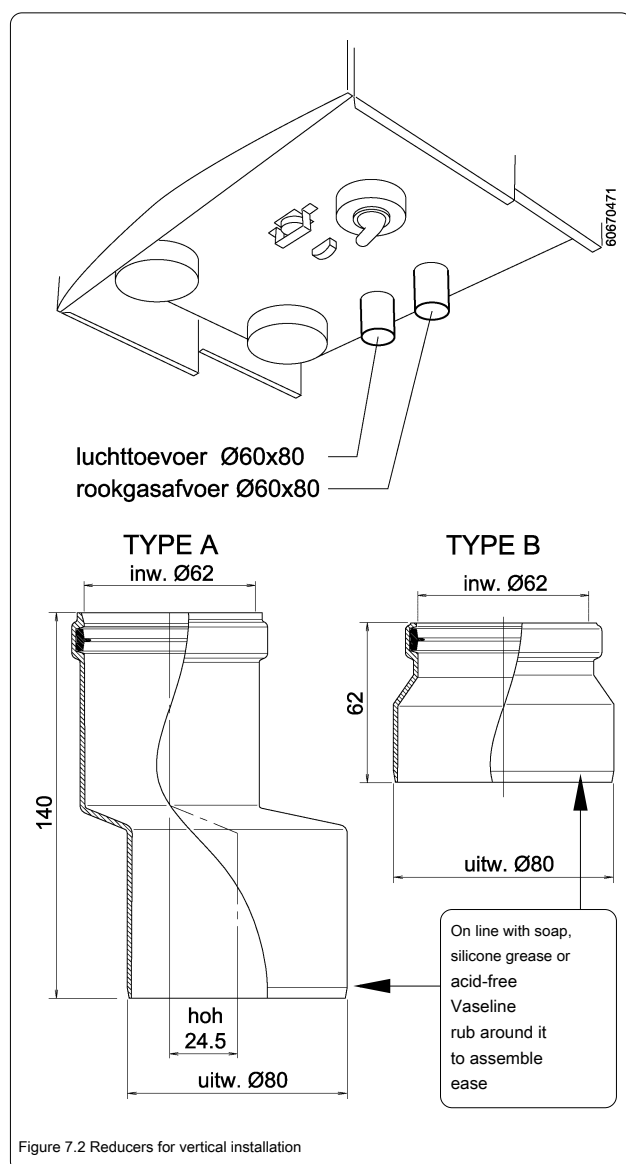

Figure 7.2 Reducers for vertical installation
Figure 7.2 shows the mounting panel with installation dimensions and boiler options for both a vertical and a horizontal set-up.
In a vertical arrangement, the boiler is mounted under the ventilation unit. The boiler is connected to the 2 pipes (ø60), which protrude at the bottom of the ventilation unit (see figure 7.2). Two types of reducers to ø80 are supplied with the ventilation unit.
- Type A (fig. 7.2) for connecting a Mega-Dens or a MegaLux heating appliance.
- Type B (fig. 7.2) for connecting an Econcompact heating appliance.